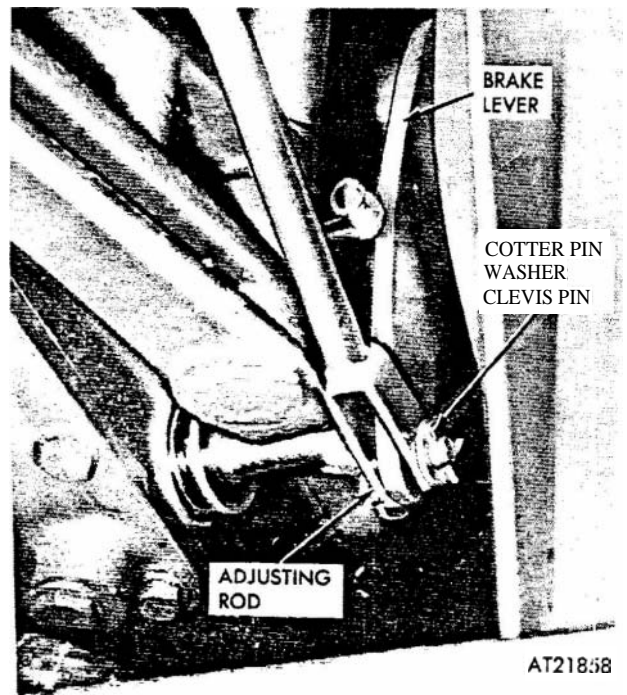

Figure 2-205. Adjusting rod connecting points.
- (1) Release hand brake and turn knurled knob on handle counterclockwise until stop is reached.
- (2) Remove tractor seats (refer to para 2-221).
- (3) Remove console (refer to para 2-33).
- (4) Disconnect adjusting rod (fig 2-205) from brake lever by removing one cotter pin, washer, and clevis pin.